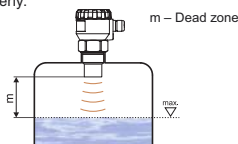

Fig. 2: Level meter dead zone
- In connection with the measurement principle, no signals **reflected** in the area immediately under the level meter can be evaluated (dead zone). **The dead zone** (Fig. 2) determines the min. distance possible between the level meter and the highest surface level. The min. distances to the medium are given in the chapter "Technical specifications" (p. 24).